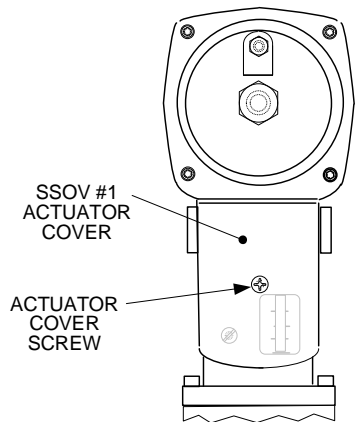

Figure 6-4
4. Remove the cover from SSOV #1 by loosening the screw shown in Figure 6-4. Lift off the cover to access the terminal wiring connections.